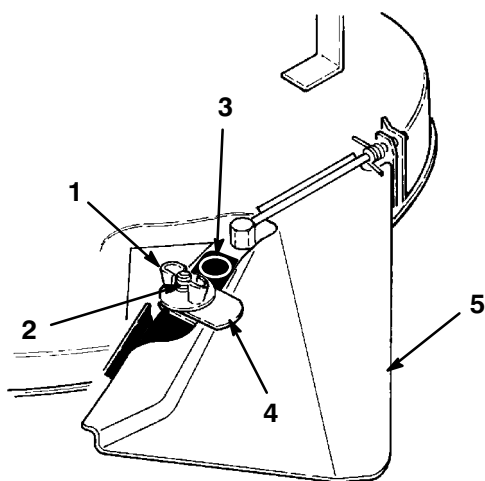

Figure 12
1. Remove the wing nut securing the discharge cover (Fig. 12) to the mower housing. **Never** remove the grass deflector from the mower housing (Fig. 12).